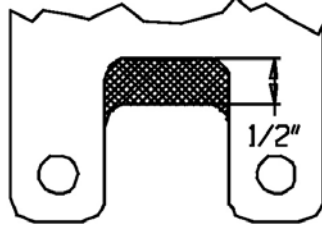

Figure 1 - Throttle Bracket Modification
- THROTTLE BRACKETS:** Due to the design of Performer manifolds, the throttle and kickdown bracket on some vehicles may require modification to fit. See figure 1 for guidelines or purchase our #8031, 8030 or 8036 throttle, cruise, and kickdown linkage brackets